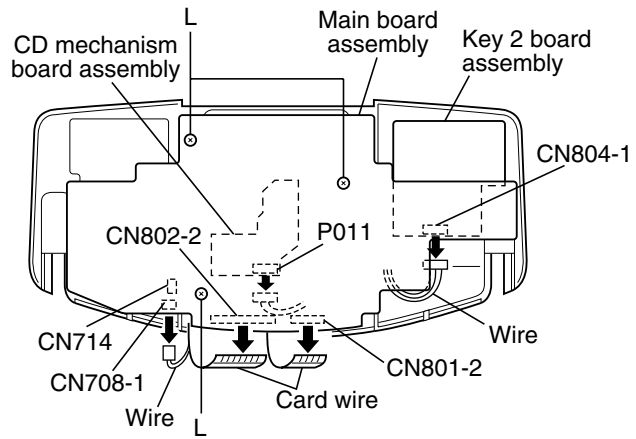

Fig.14
■ Removing the main board assembly (See Fig.14 to 16)
4. Disconnect the wire from the connector CN804-1 on the key 2 board assembly.